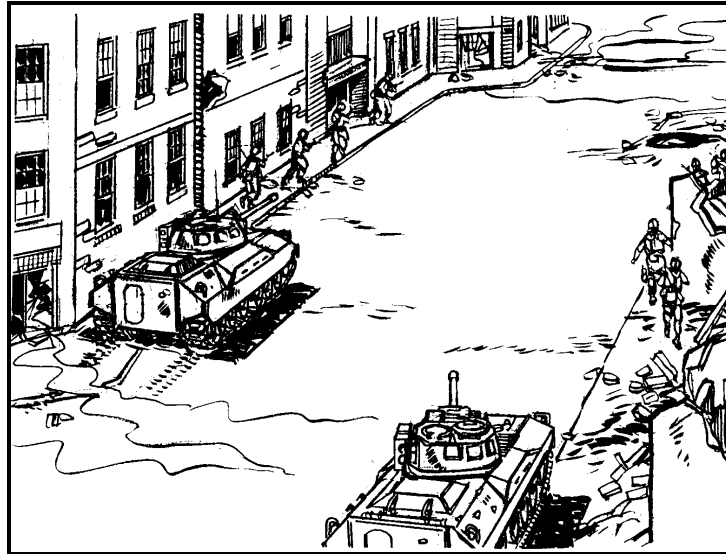

Figure 4-3. CFVs providing overwatch for lead dismounted element.
- **CFV capabilities.** The CFV has these capabilities related to urban operations (see also Figure 4-3):